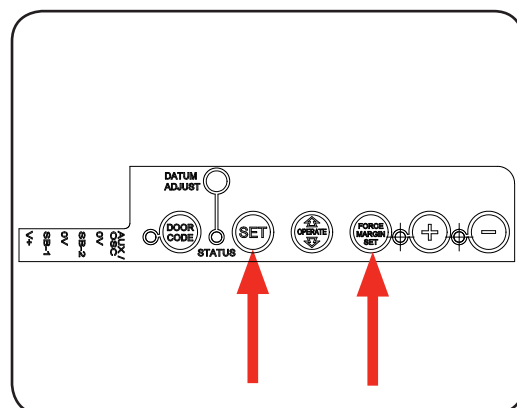

Fig.24
- While holding down the FORCE MARGIN SET button press the SET button for two seconds (**Fig 24**).